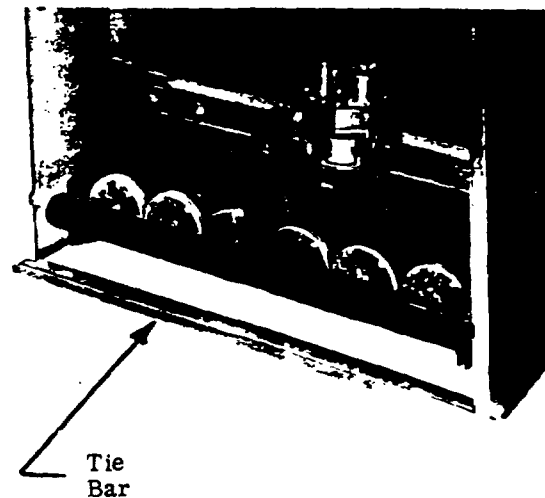

FIG. 12
6. Attach the tie bar to the side panels at the lower front portion of the boiler with #8 x 3/8" sheet metal screws (see Figure 12).